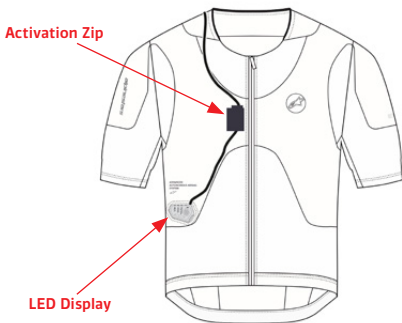

Figure 25: Removal of the LED Display (3) and Activation Zip (2)
4. **Remove the LED Display (3) and the Activation Zip (2)** – Remove the LED Display (3) by accessing the opening inside the garment, next remove the Activation Zip (2) located inside the Velcro pocket as shown in Figure 25.